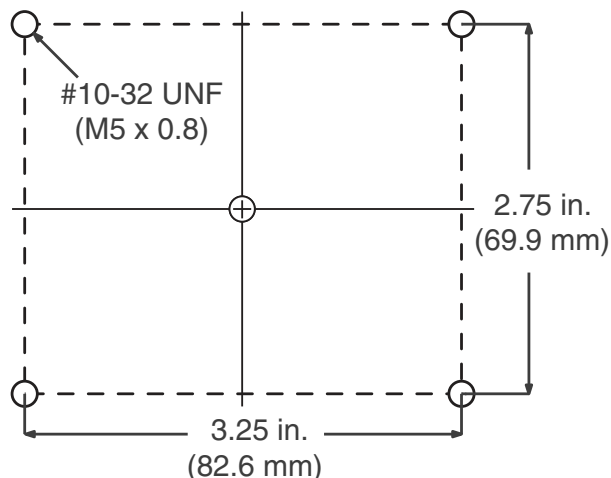

Fig. 21: CGM Mounting Holes
4. Drill the mounting holes using the mounting hole dimensions shown in **Figure 21**.